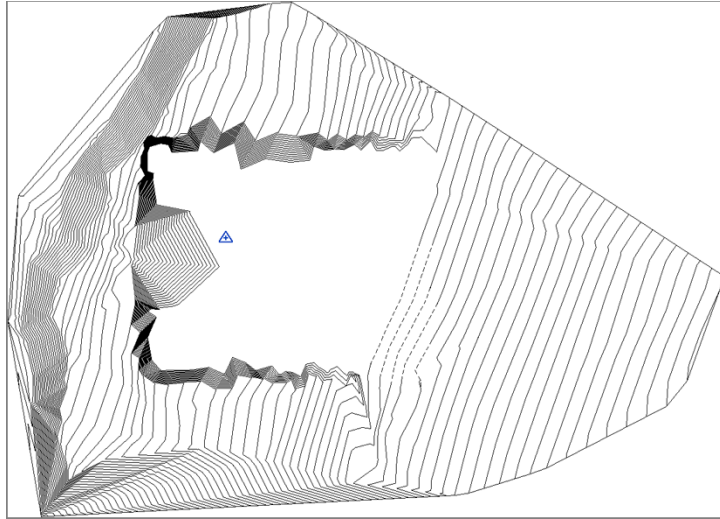

FIGURE 18.38: The site with cuts and fills
12. Verify that your site appears similar to Figure 18.38.